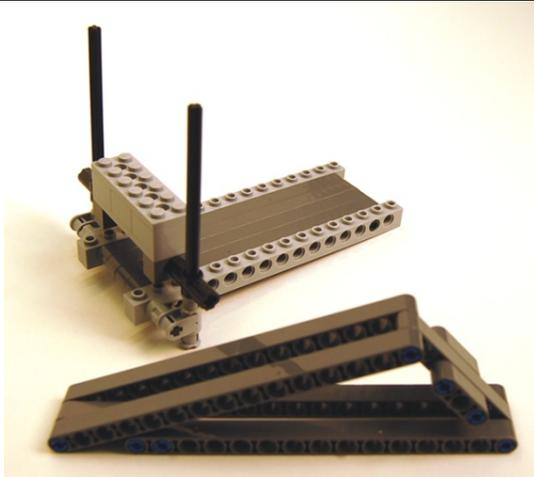

Figure 2. Wedge Model and Test Apparatus
1. ( ) Carefully examine the model of the Wedge and the test apparatus shown in Figure 2. Construct a model similar to the one shown in this photograph.